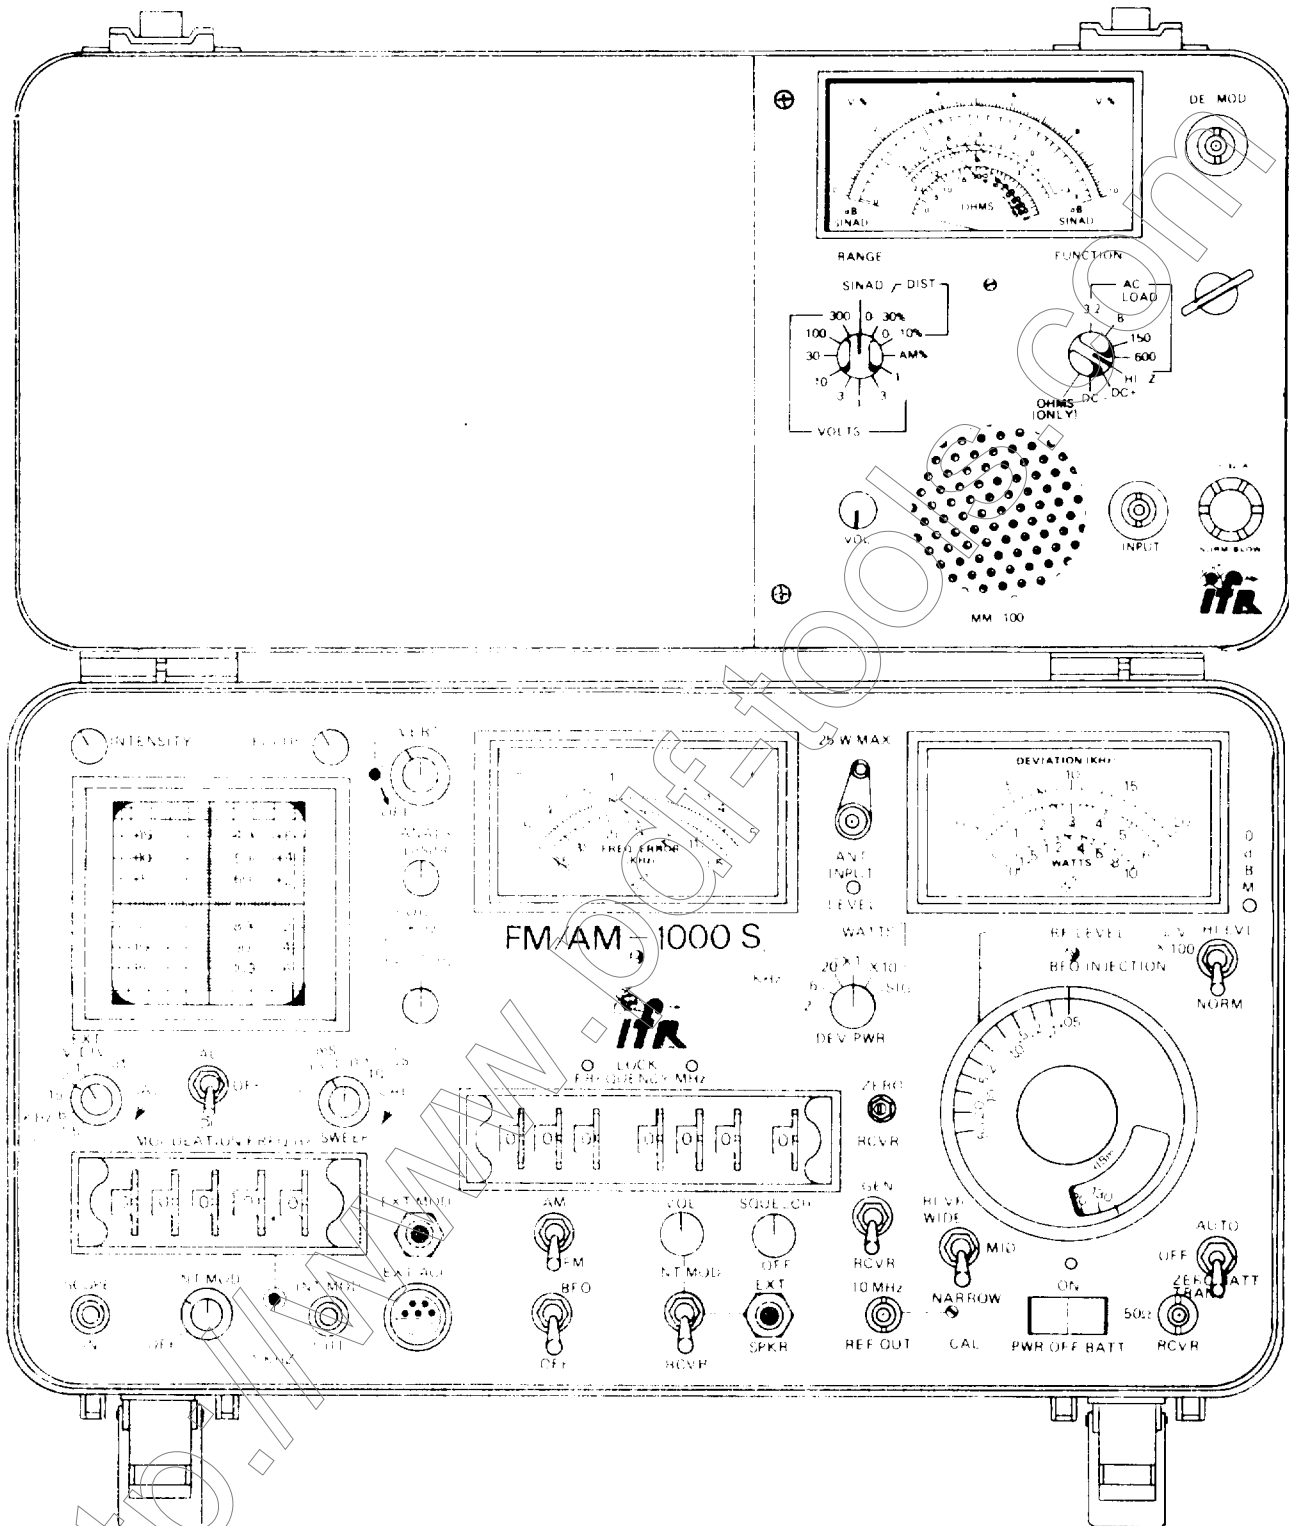

Figure 4-1. AN/GRM-114 controls, indicators, and connectors
- (1) The device receiving an input is energized first.
- (2) The device generating an output is energized second.
**4-2. AN/GRM-114 Controls, indicators, and Connectors.** Table 4-1 lists the controls, indicators, anti connectors (figure 4-1) of the AN/GRM-114.